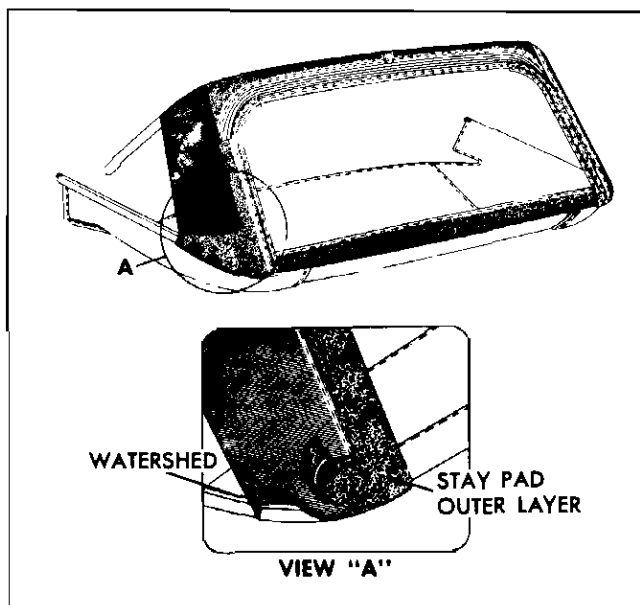

Fig. 7-39 Back Curtain Stay Pad Watershed Installation
13. Wrap bottom portion of watershed upward and around lower edge of stay pad inner flap (Fig. 7-39) then tack stay pad outer layer (coated fabric) over watershed.